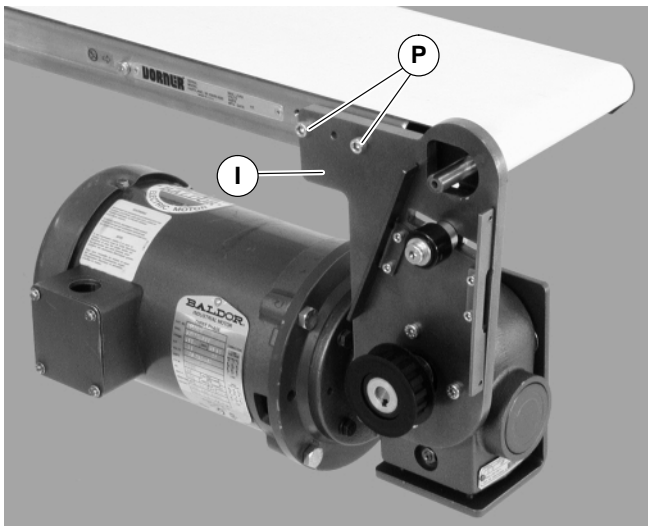

Figure 7
- 4a. Attach mounting assembly (I of Figure 7) with screws (P). Tighten to 80 in-lb (9 Nm). Proceed to step 8.
- 5b. Attach mounting assembly (I of Figure 7) with screws (O). Tighten to 80 in-lb (9 Nm).